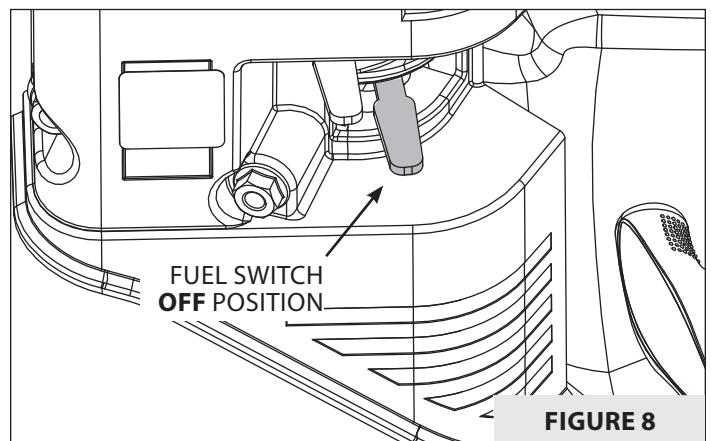

FIGURE 8
3. Move the fuel lever to the **OFF** position. **SEE FIGURE 8.**